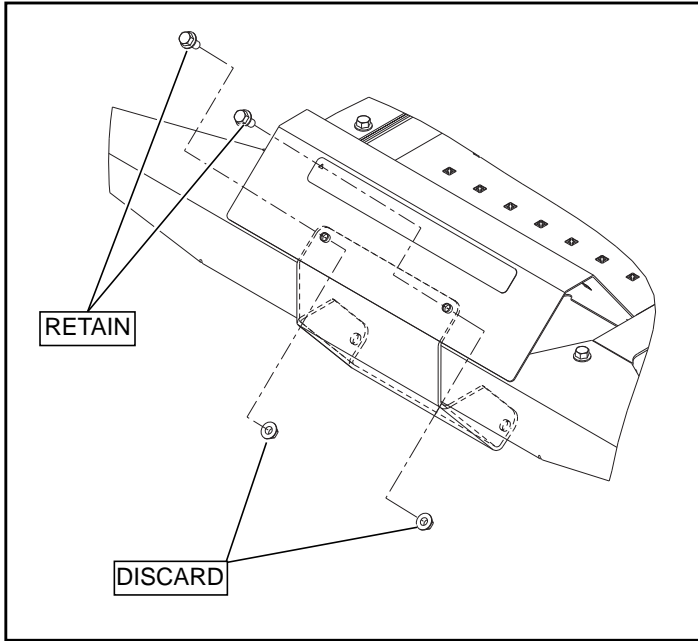

FIG. 13
15. Remove the .375" nuts and bolts from the front of the mower. Retain the bolts and discard the nuts (Fig. 13).